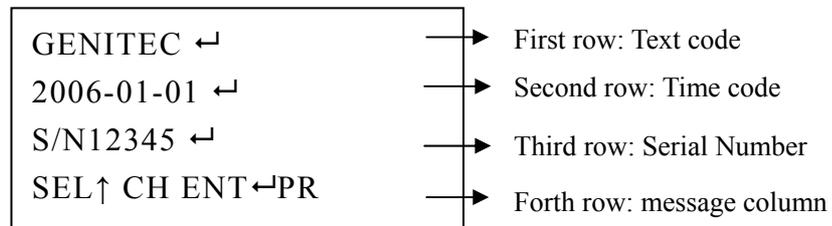

Figure 15
2. To entry original setting by press the button  . (Refer to figure 15) :
(Refer to figure 15)